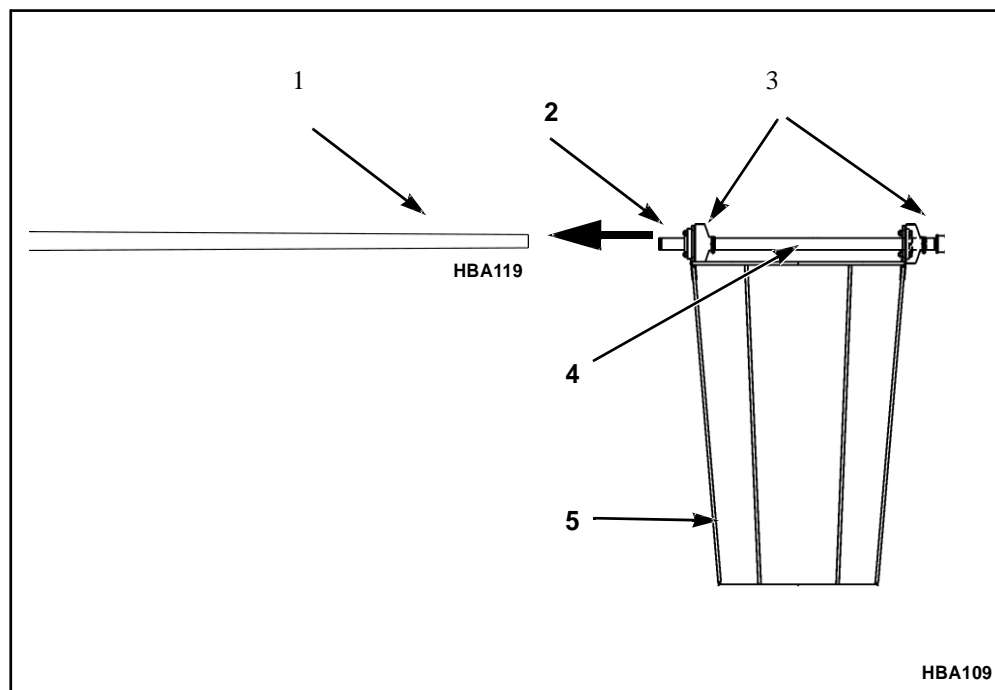

Figure 10. Positioning the Basket
2. Rotate the basket so the raincaps are pointed away from the pole, see Figure 10.
3. Apply anti-locking compound to the threads of basket support pipe, see Figure 10.